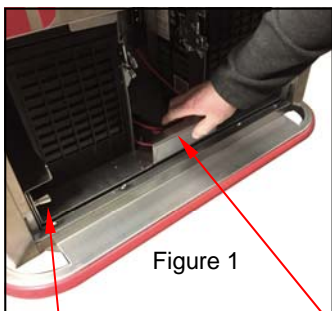

Figure 1
- 3) Next, pull the knobs (Fig 1) on the left and right sides of the battery tray towards the center of the cart. Twist the knobs one quarter turn until they remain in the out ("unlocked") position.
- 4) Pull the battery tray away from the cart using the formed metal handle in the center of the battery tray (Fig. 1 and 2).